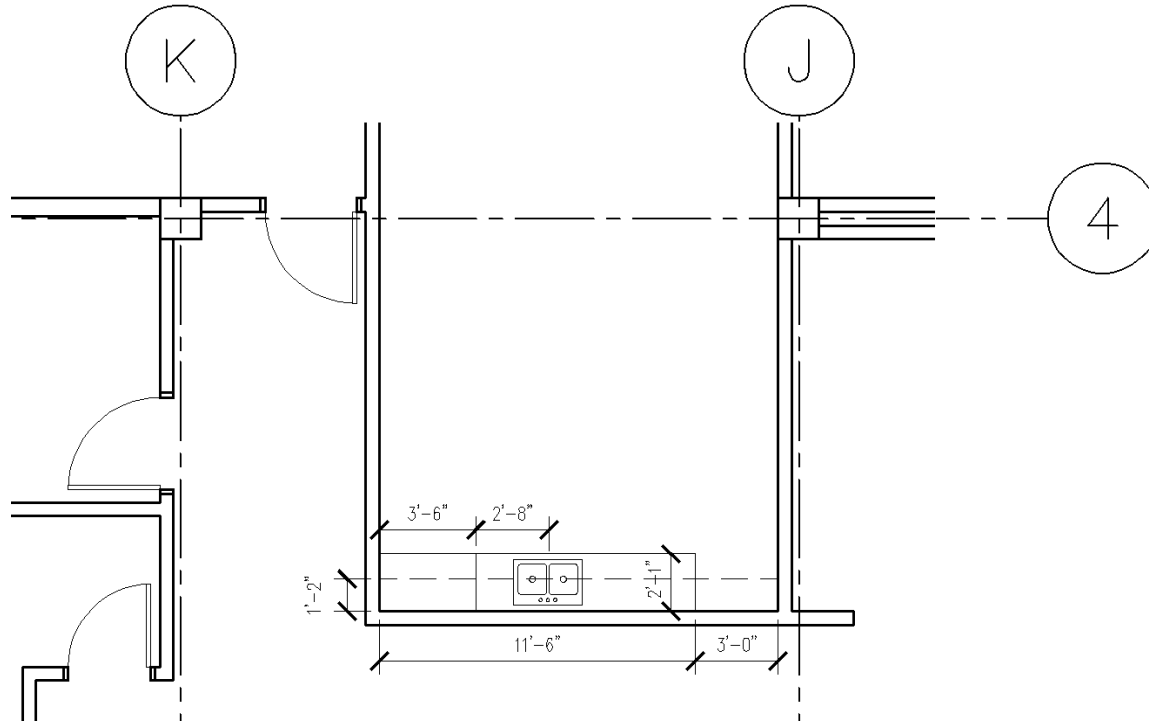

Figure 3-2.2 Drawing the break room casework
3. Draw the cabinets shown in Figure 3-2.2, *plus*: